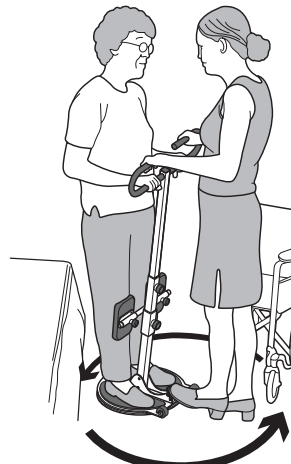

Figure 4d.
7. Hold the upper handle bars as the patient lowers, as shown in **Figure 4d**.